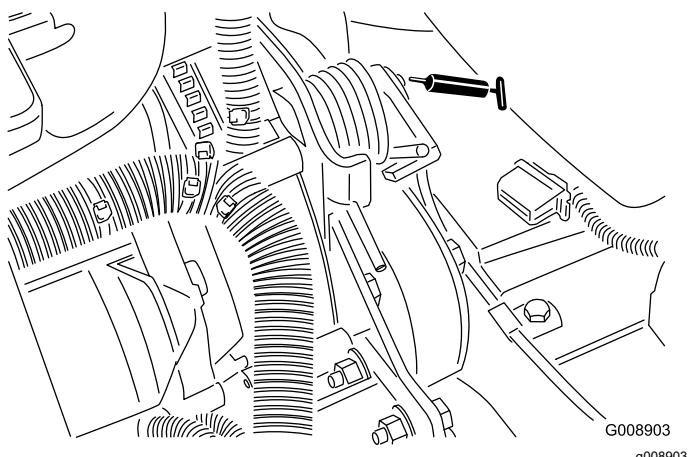

Figure 40
- Belt tension pivot (Figure 40)